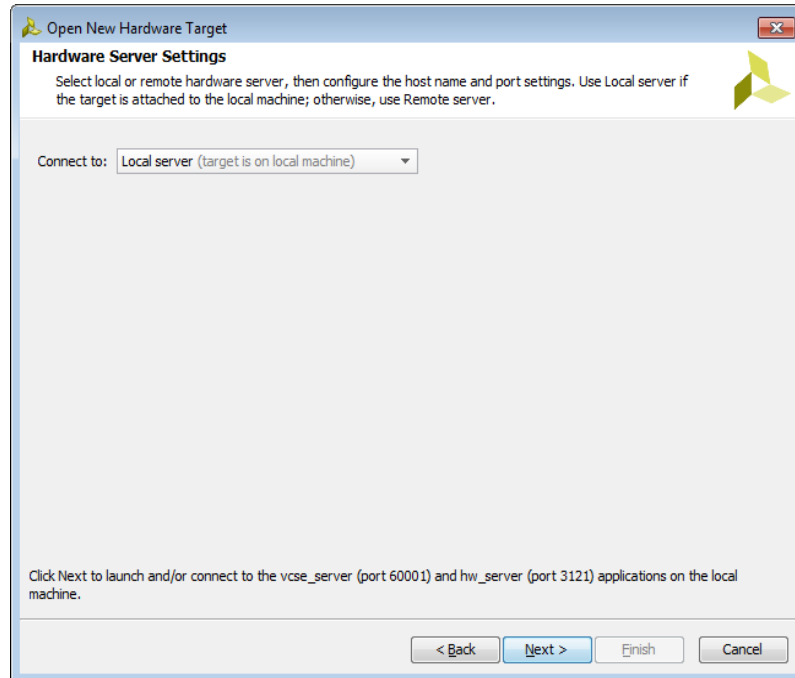

Figure 2-12: Using a Local Hardware Server
- Local server: Use this setting if your hardware target is connected to the same machine on which you are running the Vivado IDE (See Figure 2-12). The Vivado software automatically starts the Vivado hardware server (`hw_server`) and Vivado CSE server (`vcse_server`) applications on the local machine.